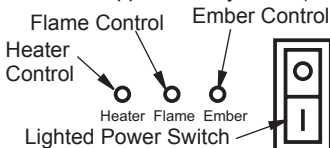

Figure 5 - Controls For Electric Fireplace
The controls (see Figure 5) are located behind hinged control panel door. If using heater, control panel door will be hot during and immediately after operation. Open door by pressing on right side. A spring magnet will push door forward. Pull door down to open.
2. Turn on lighted power switch (see Figure 5).